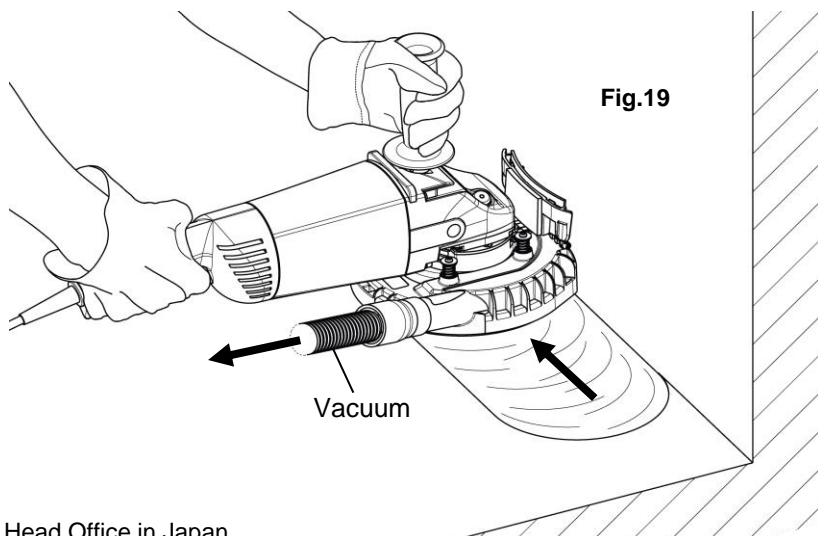

Fig.19
6. Place [a] Main Body on the material and slowly move toward the grinding direction along the wall. (Fig.19)